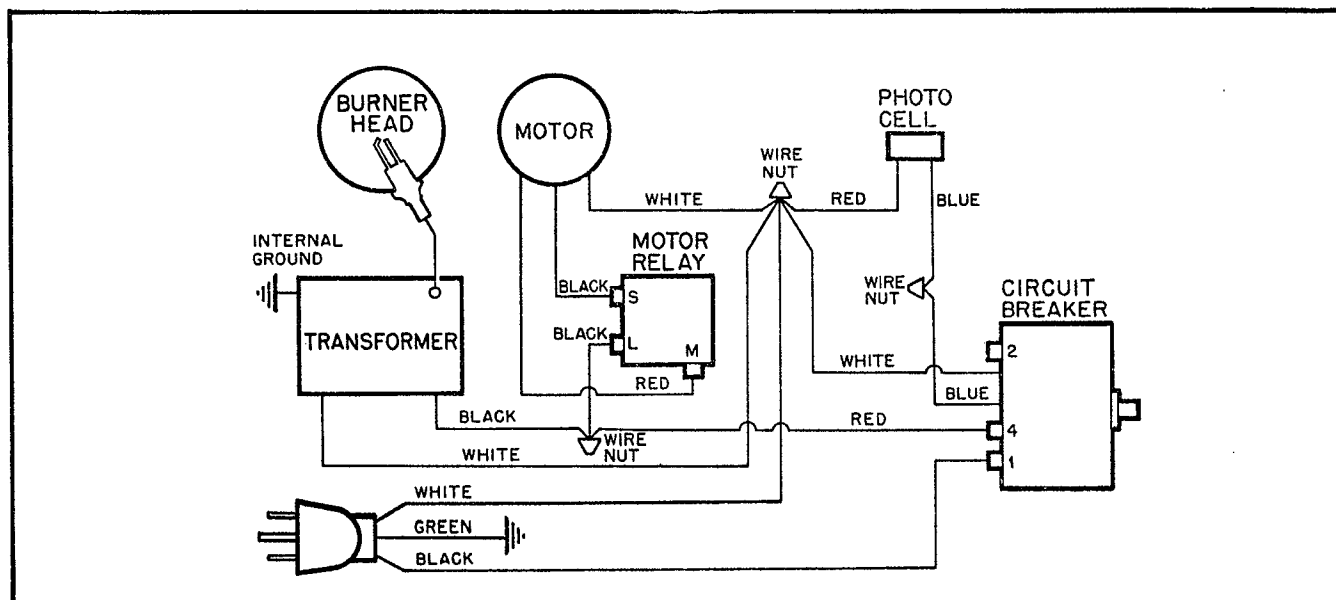

Figure 9. Wiring Diagram
5. Reinstall the attaching screws, and make wiring connections in accordance with Figure 9.
The heaters have 1/6 horsepower motors and separate starting relays. (See the Wiring Diagrams, Figure 9).
c. If the motor starts, install a new relay, and reconnect the wiring according to the Wiring Diagram, Figure 9.
(1) Internal fault in the motor, such as burned-out stator.
(2) Failure of the starting relay.